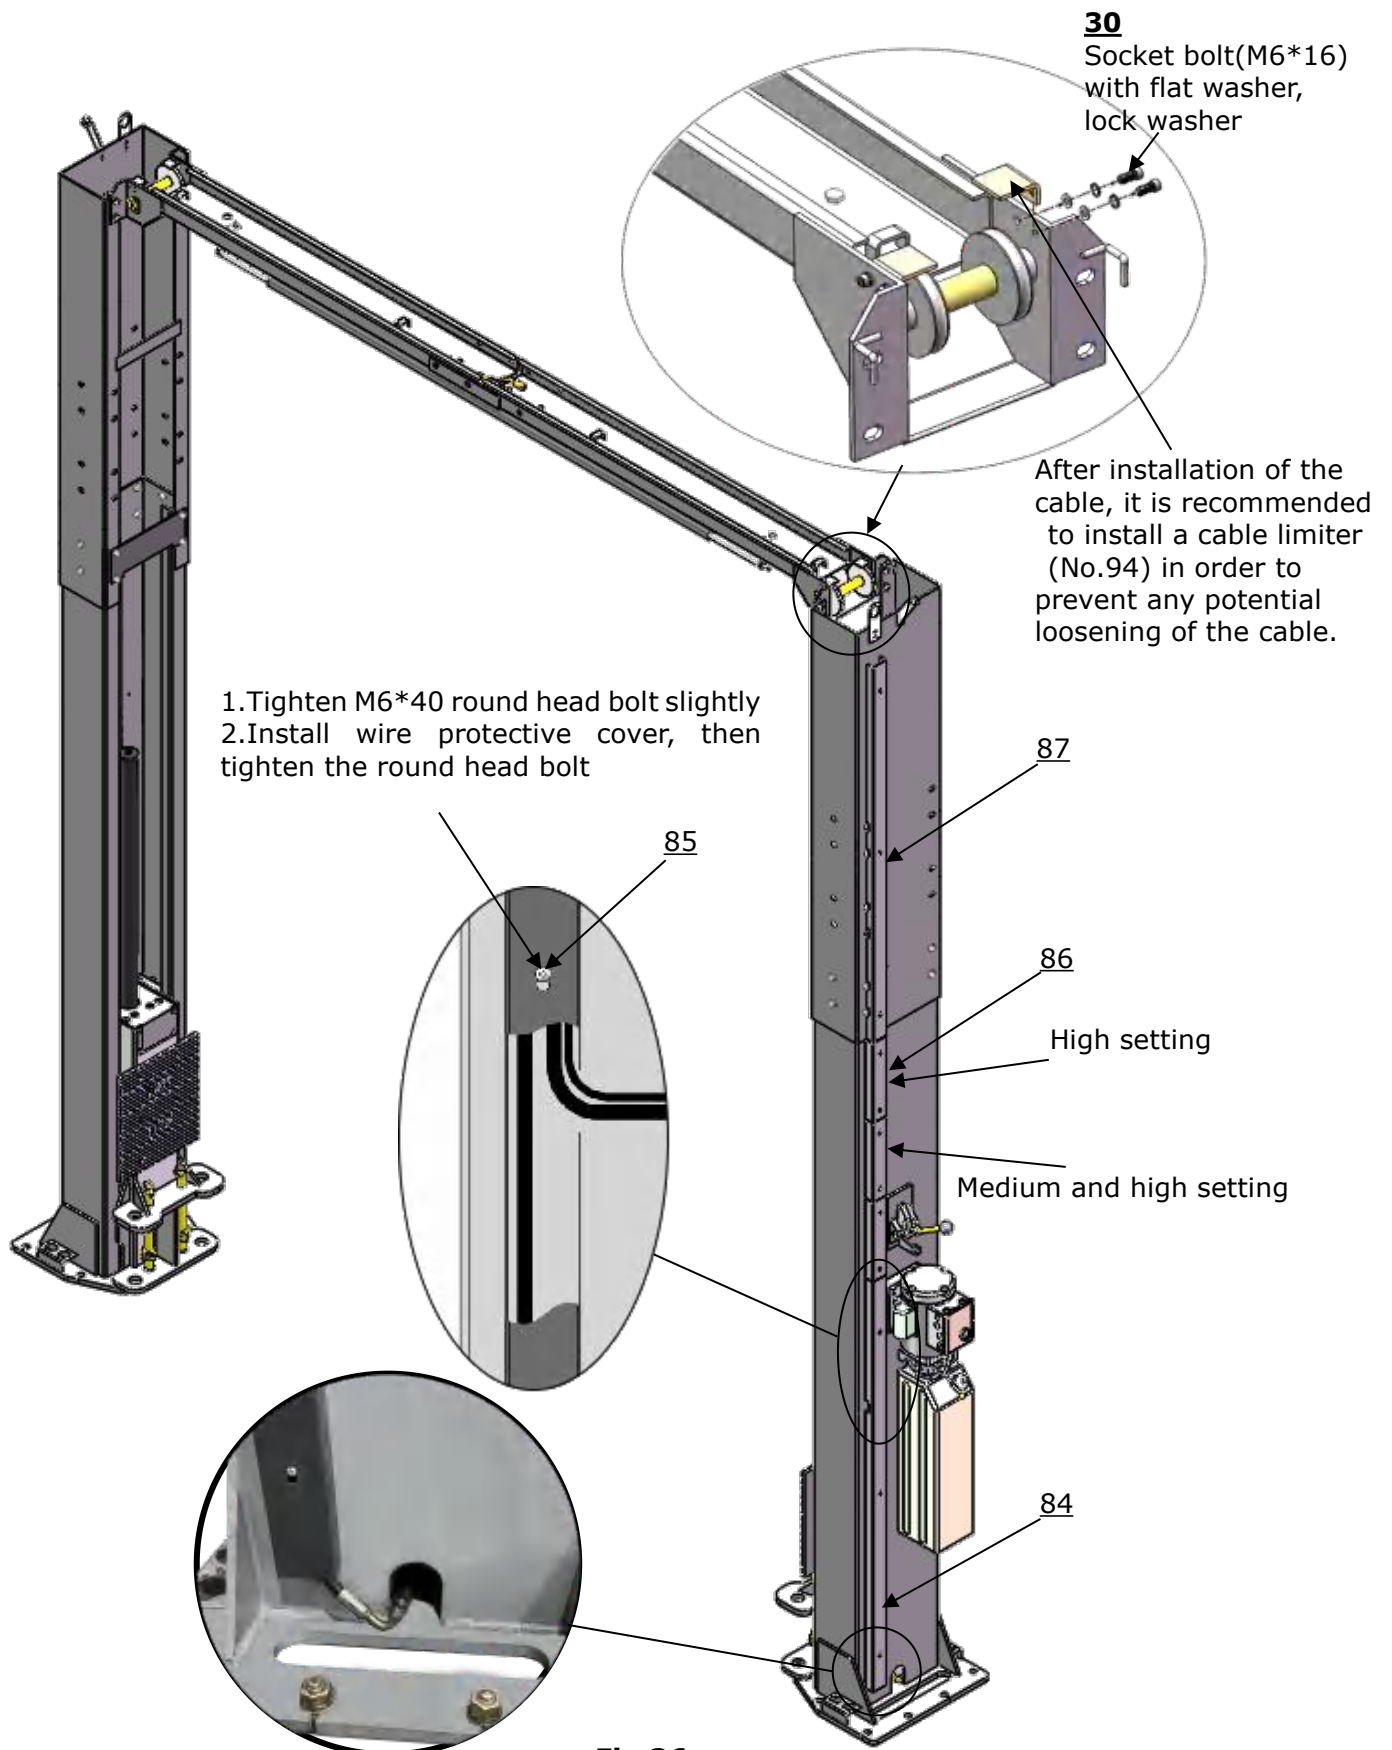

Fig.36
N. Install wire protective cover and sync cable limit plate.(See Fig.36)